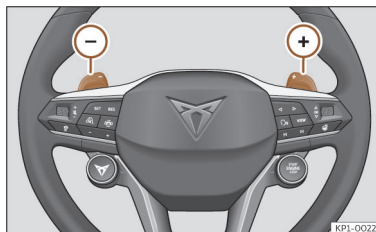

Fig. 120 Steering wheel: automatic gearbox levers
- Press the **+** gear shift paddle to change up a gear >>> **Fig. 120**.